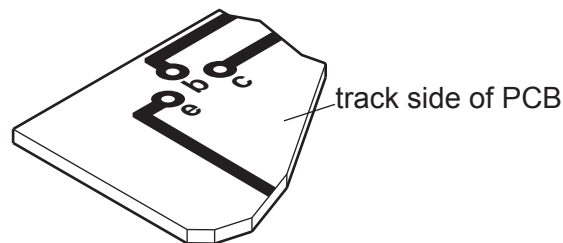

Fig. 12.5
- (ii) Fig. 12.5 shows one method of identifying the correct holes in the PCB for the transistor legs to be placed in.